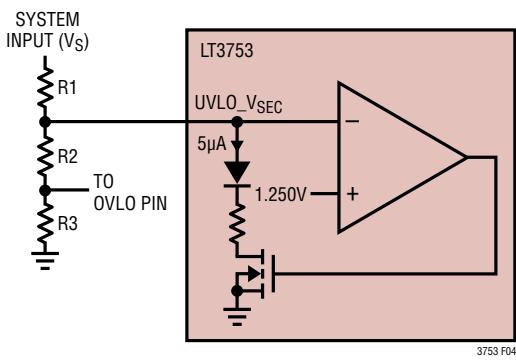

Figure 4. Programming Undervoltage Lockout (UVLO)
The LT3753 has an accurate 1.25V shutdown threshold at the UVLO\_VSEC pin. This threshold can be used in conjunction with an external resistor divider to define the falling undervoltage lockout threshold (UVLO(-)) for the converter's system input voltage (VS) (Figure 4). A pin hysteresis current of 5µA allows programming of the UVLO(+) threshold.